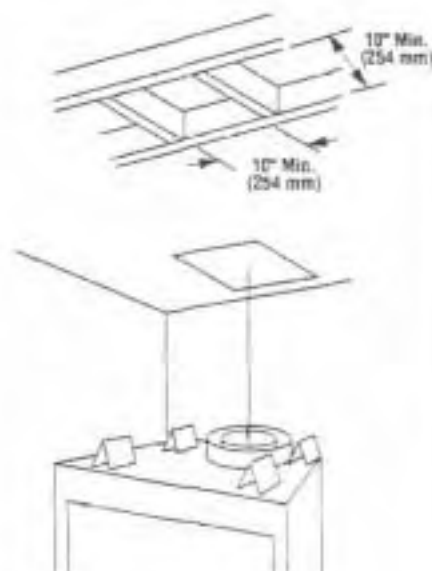

Figure 17
A. Use a plumb line from the ceiling above the appliance to locate center of the vertical run. Cut and/or frame a 10" x 10" inside (254 mm x 254 mm) minimum opening about this center mark (Figure 17).
C. If the vertical route is to penetrate a ceiling, use plumb line to locate the center above the appliance. Cut and/or frame a 12" x 12" (305 mm x 305 mm) inside opening about the center (refer to Figure 17).